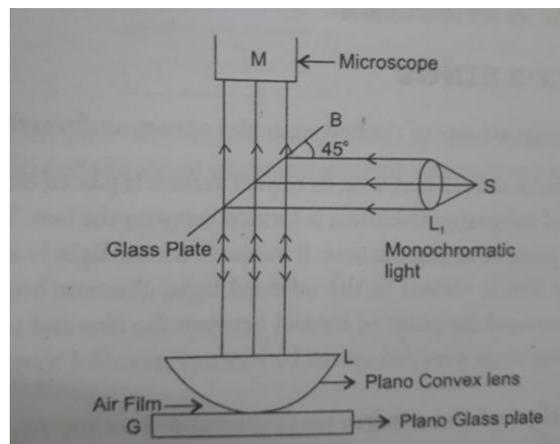

Fig. 1.6 The experimental arrangement of Newton rings
- The experimental arrangement for producing Newton rings is as shown in Fig 1.6
- A part of the light is reflected by the curved surface of the Plano-convex lens (P) and a part is transmitted which is reflected back from the plane surface of the plane glass plate (E).
- These rings are seen with a microscope (M) focused on the air film.